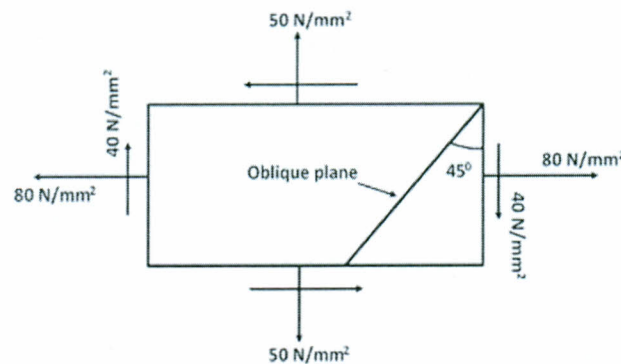

Fig. 5.
- Q.9B A point in a strained material is subjected to stresses shown in Figure 5. Using Mohr's circle method determine the normal and tangential stresses across the oblique plane. Check the answers analytically. 10